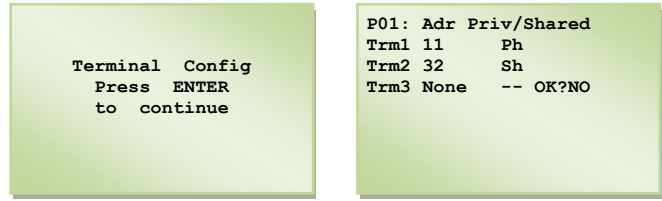

Fig. 13
- Pressing the key again will display the sequence of masks as shown in Fig. 13;
- The **ENTER** key moves the cursor from one field to another and the **UP** and **DOWN** keys change the value of the chosen field. The Pxx field: this shows the address of the selected board; in the example in fig. 13, P01 has been selected. To exit from the configuration procedure and memorize the data, select the “OK ?” field and set it to YES and then press **ENTER** to confirm. The fields in the “Adr” column represent the addresses of the terminals associated with the pCO board, address 11 for the local terminal and 32 for the shared terminal, while the column Priv/Shared indicates the type of terminal.